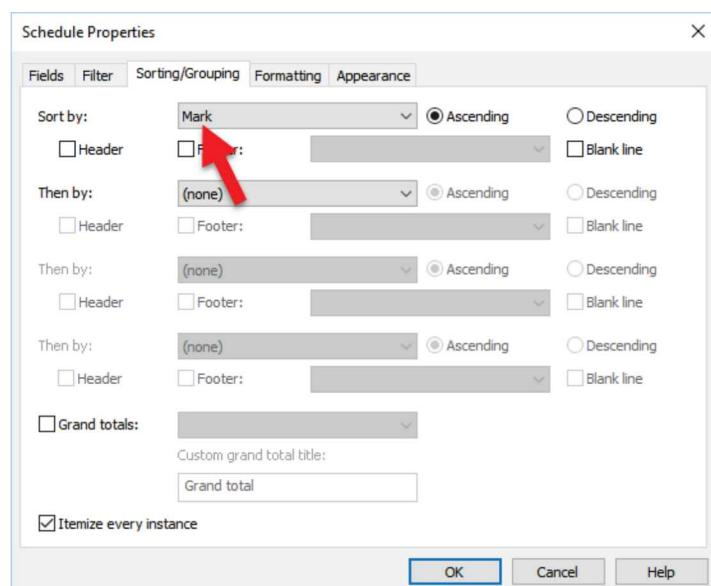

FIGURE 13-2.3 Schedule Properties; Sorting tab
6. On the *Sorting/Grouping* tab, set the schedule to be sorted by the **Mark** (i.e., door number) in *Ascending* order (Figure 13-2.3).